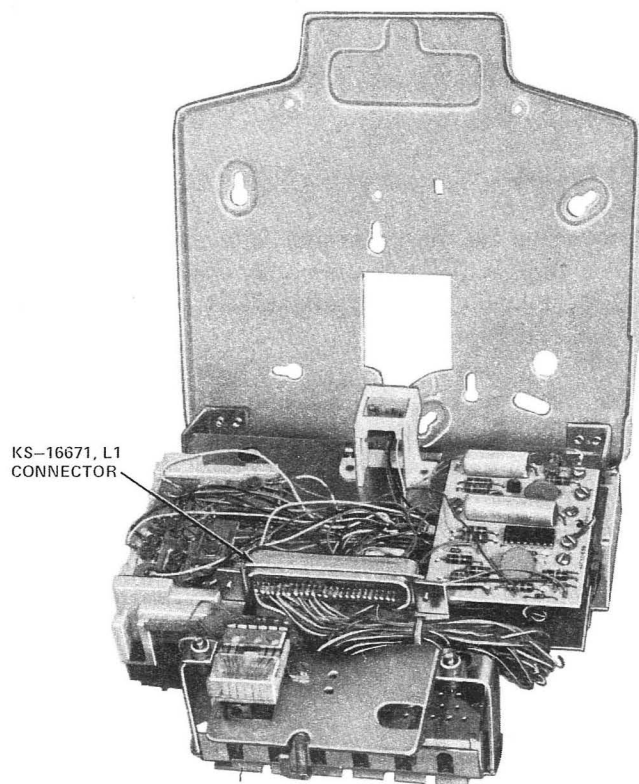

Fig. 3—853AM or 2853AM Telephone Set With Hinged Chassis Assembly on Lowered Position
chassis assembly must be lowered by loosening the captive screws (Fig. 3) holding the top of the chassis. For ease of installation the chassis assembly can be removed from the base pan by springing the hinged brackets sufficiently to clear the pins. The base pan can be mounted directly to the wall using the keyhole slots, or holes provided for mounting over an electrical outlet box.
3.04 The 853AM and 2853AM telephone sets are equipped with a KS-16671L1 connector. An A25B connector cable is required to connect set to key equipment. Check before restoring chassis assembly that sufficient slack is provided to permit proper hinging action (Fig. 3). Use plastic tie-wraps to secure the connector cable plug to the KS-16671L1 connector.
- (1) If chassis assembly is in lowered position, raise and fasten in place with two captive screws (Fig. 3).
- (2) Install collar on key.
- (3) Withdraw the two mounting screws until they are held in the housing by their threads. With both line switch plungers fully lifted, move the housing directly into position around the telephone set making sure that the two housing ribs fit into the corresponding slots on the network and terminal board assembly. Continue working the housing into position against base. Release plungers.
- (4) Fasten housing in place with two captive screws.
- (5) Check operation of line switch.
4.02 Sets are equipped with the KS-16671L1 connector (Fig. 3). An A25B connector cable is required for termination.